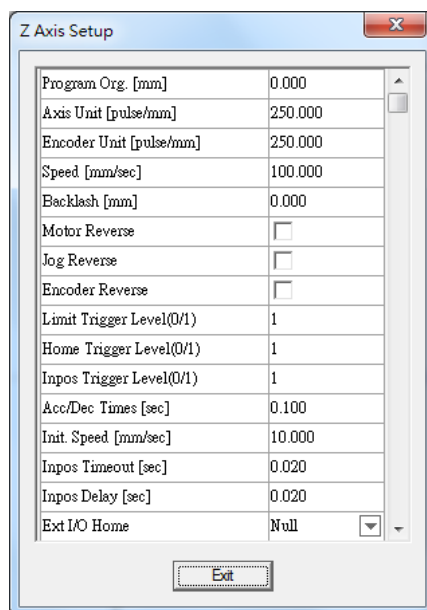

Fig. 1.7.38
6. Click “SETUP...” and do more detail settings, see Fig.1.7.38.